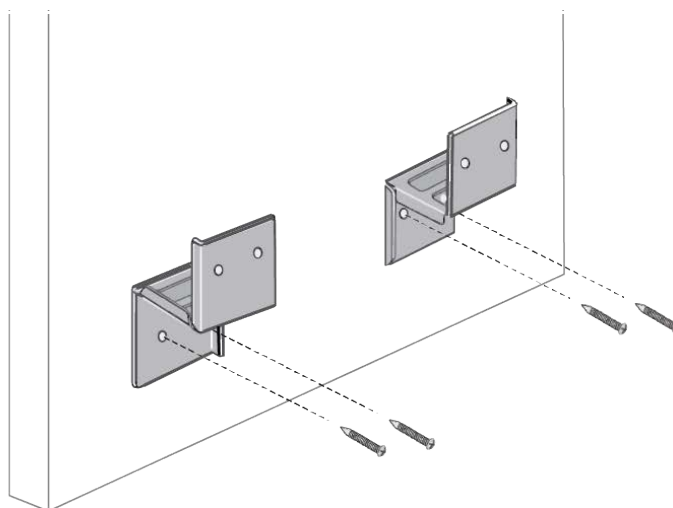

Figure 6. Attaching the Brackets to the Wall
7. Position two brackets on the wall and screw the screws through the holes to attach the brackets on the wall. See Figure 6.